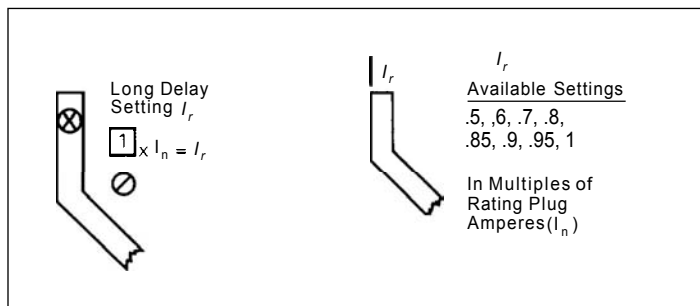

Figure 13. Long Delay Current Settings.
Prior to placing any circuit breaker in operation, each Trip Unit protection setting must be set to the values specified by the person responsible for the installation. The number of settings that must be made is determined by the protection supplied as illustrated in Figures 13 through 19. Each setting is made with a rotary switch, using a small screwdriver. The selected setting for each adjustment appears in its respective rectangular viewing window as illustrated in Figure 1.
The available settings, along with the illustrated effect of changing the settings are given in Figures 13 through 19.
There are eight (8) available Long Delay "Pick-up" Current Settings, as illustrated in Figure 13. Each setting, called " I_r ", is expressed as a multiple (ranging from 0.5 to 1) of the rating plug current (I_n).